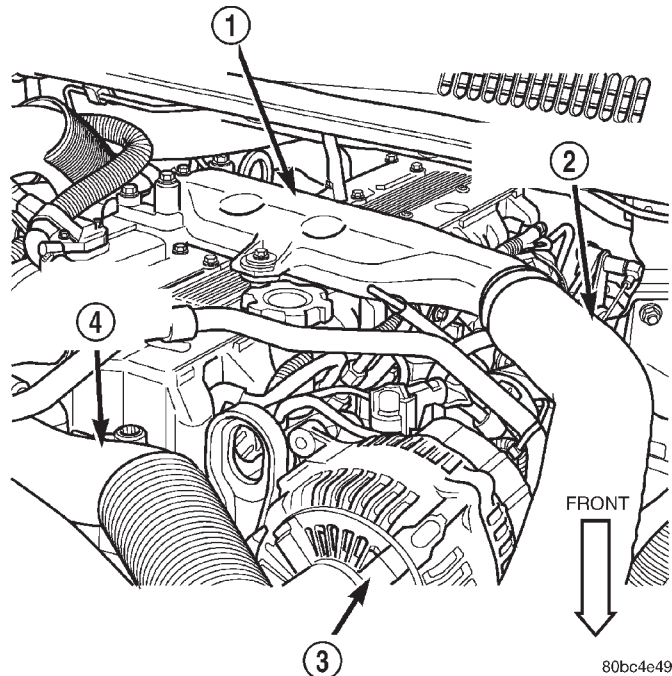
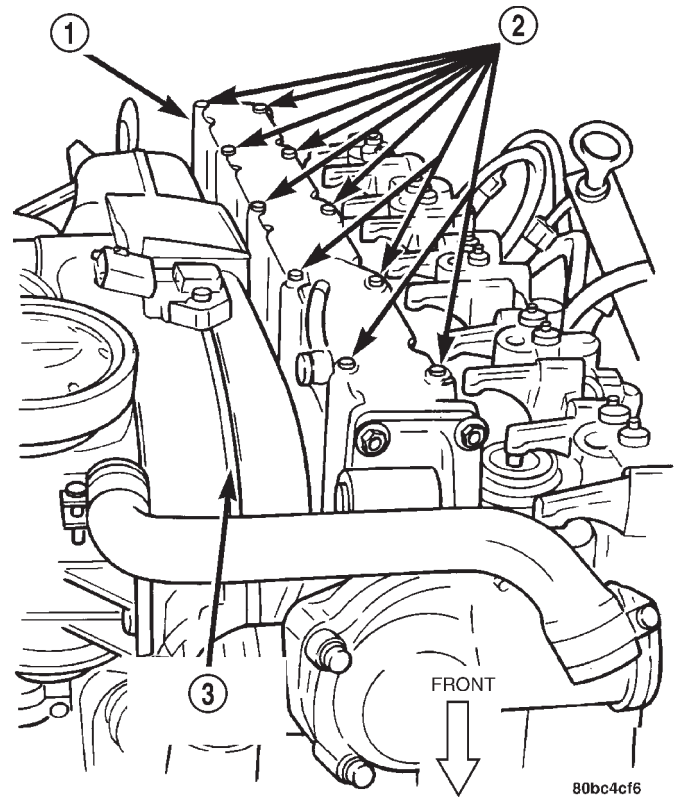

Fig. 53 Intake Manifold Elbow
Fig. 54 Water Manifold
(2) Drain the cooling system. Refer to Group 7, Cooling System for procedure.
(3) Discharge the air conditioning system. Refer to Group 24, Heating and Air Conditioning for procedure.
(4) Remove the A/C lines at the compressor and cap. Refer to Group 24, Heating and Air Conditioning.
(5) Remove A/C line bracket attached to cylinder head cover, and move A/C lines away from cylinder head.
(6) Remove the intake manifold elbow air inlet hose (Fig. 53).
- (7) Remove the intake manifold elbow (Fig. 53).
- (8) Remove the air cleaner hose from turbocharger and breather hose.
- (9) Remove the upper radiator hose and coolant recovery hose.
- (10) Remove the water manifold (Fig. 54).